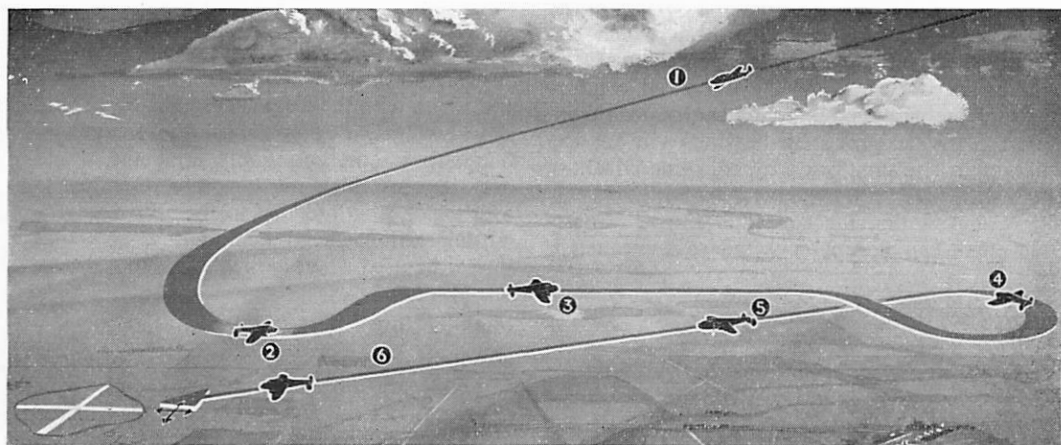

Fig. 9. Airfield and Runway Approach Procedure, Using the Radio Compass.
34. If the transmitter is situated on the aerodrome, or in line with the landing runway, a procedure may be adapted to permit a reasonably accurate approach to the landing runway. Fig. 9 illustrates a typical airfield and runway approach pattern which can be flown by means of the radio compass.